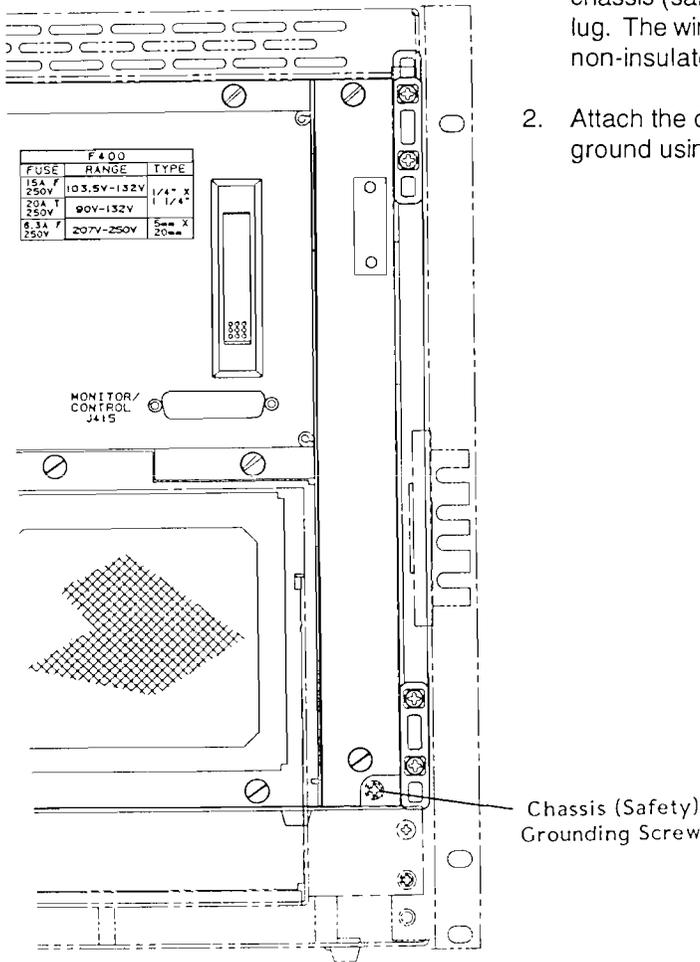

Figure 2-11 Connecting Safety Ground
**NOTE** For your protection from electrical shock when operating at mains frequencies greater than 63Hz, connect the chassis safety ground terminal to permanent earth ground. See Figure 2-11.